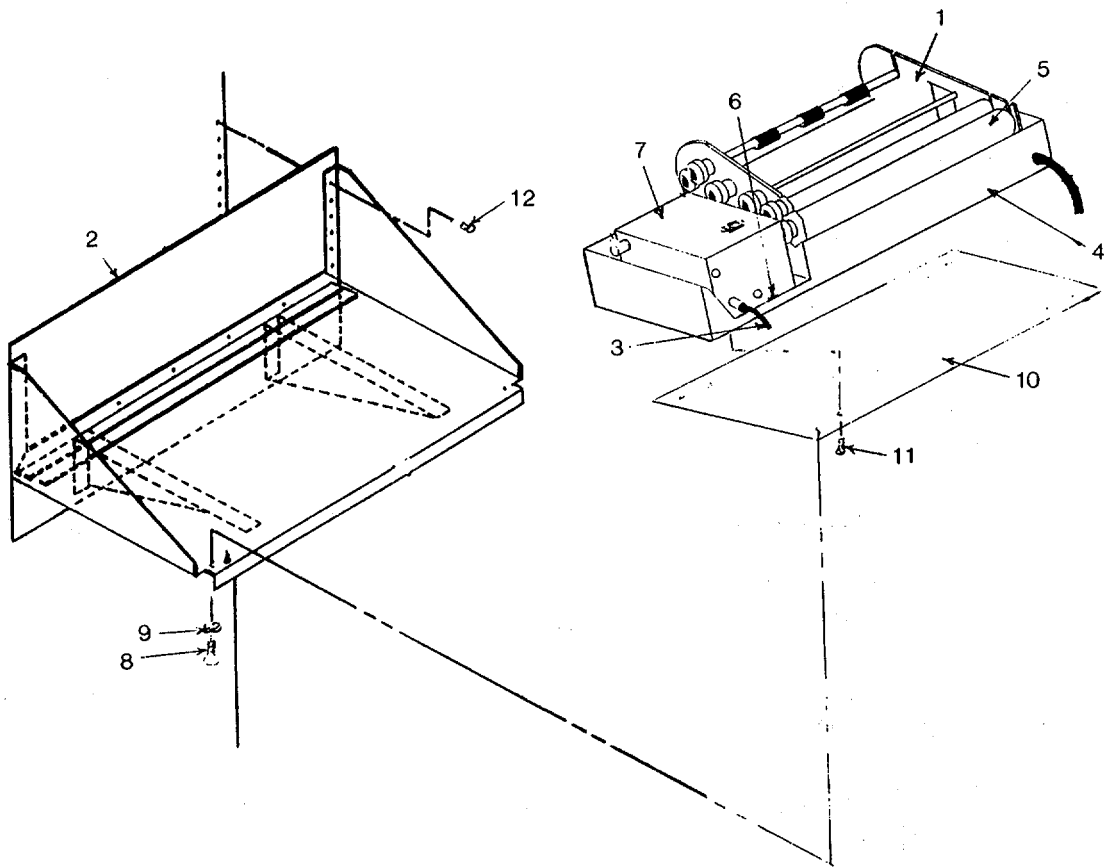

Figure 4-9. PMT Processor Assembly
a. Inspect. (See Figure 4-9.)
(1) Check darkroom PMT processor (1) for security and completeness in accordance with commercial manual.
(2) Check processor shelf (2) for security and general condition.
b. Replace. (See Figure 4-9. )
(1) Disconnect power cord (3).
(2) Drain chemicals from chemical tray (4).
(3) Lift processor rollers (5) from chemical tray (4).
(4) Release snaps (6) and remove motor module (7) from chemical tray (4).
(5) Remove thumbscrews (8) and lockwashers (9) and remove chemical tray (4) and mounting plate (10) from processor shelf (2).
(6) Remove screws (11) from mounting plate (10) and remove chemical tray (4) from mounting plate (10).
(7) Remove processor shelf (2) from interior wall of darkroom by drilling out rivets (12) or chiseling off heads.
(8) Install replacement processor shelf (2) with rivets (12).
(9) Install chemical tray (4) to mounting plate (10) with screws (11).
(10) Install mounting plate (10) to processor shelf (2) with thumbscrews (8) and lockwashers (9).